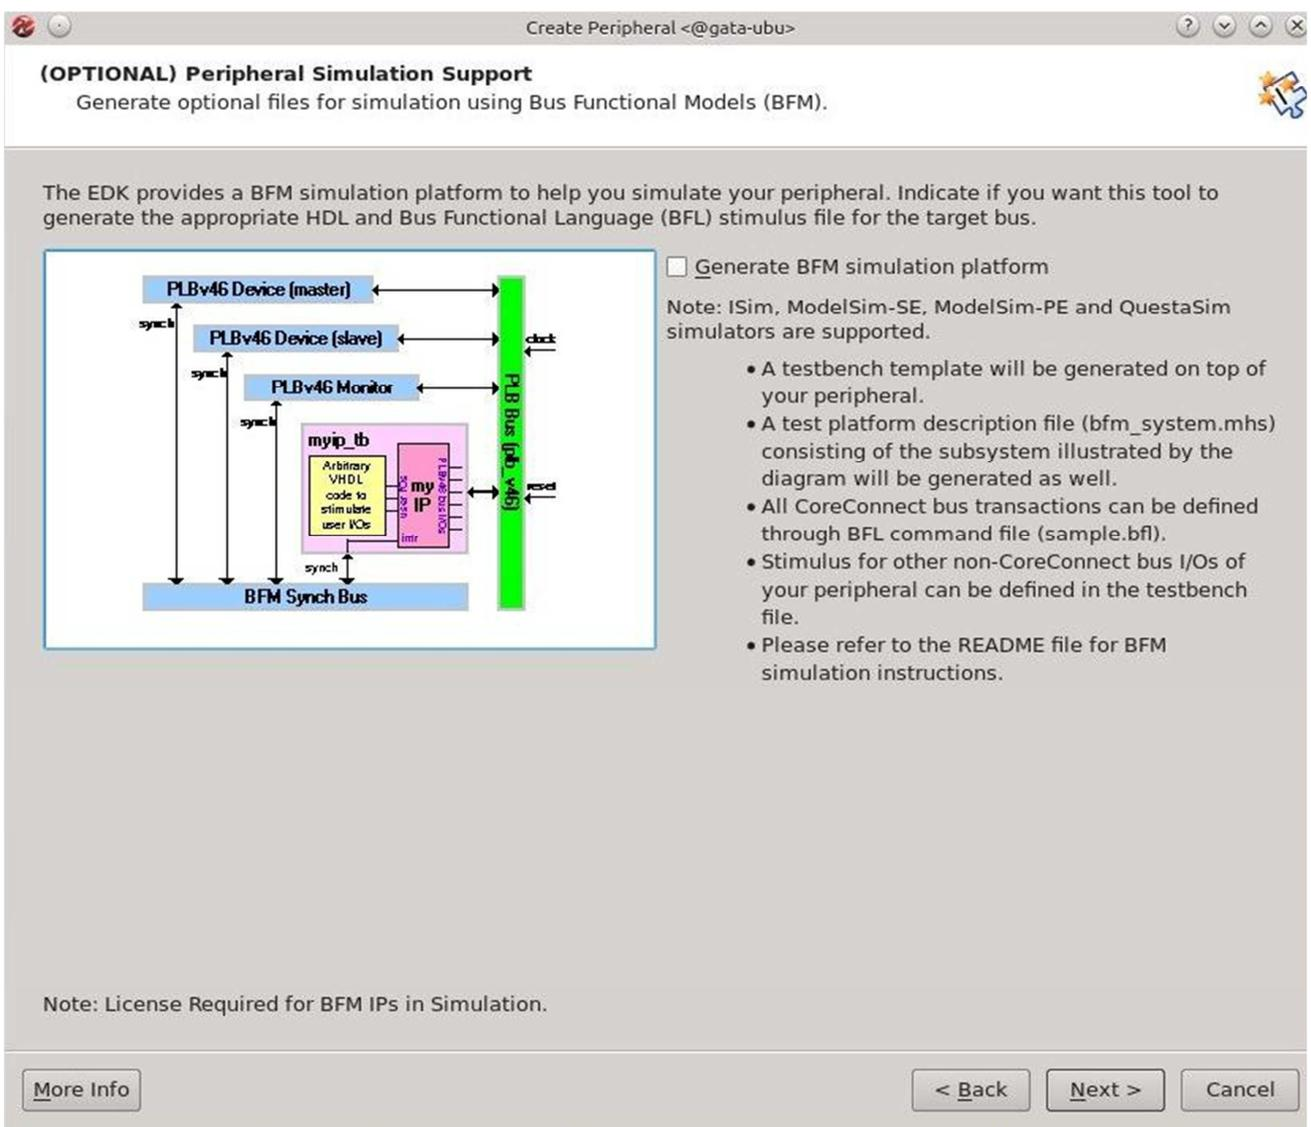

Figure 11: Create and Import Peripheral Wizard (Step 10)
Step 10: EDK designs can be simulated for functional and timing verification. In order to perform simulation, extra files will be needed and added for the simulation of the bus components. If you plan to perform simulations for your design then select “**Generate BFM simulation platform**” in the wizard page shown in **Figure 11**.